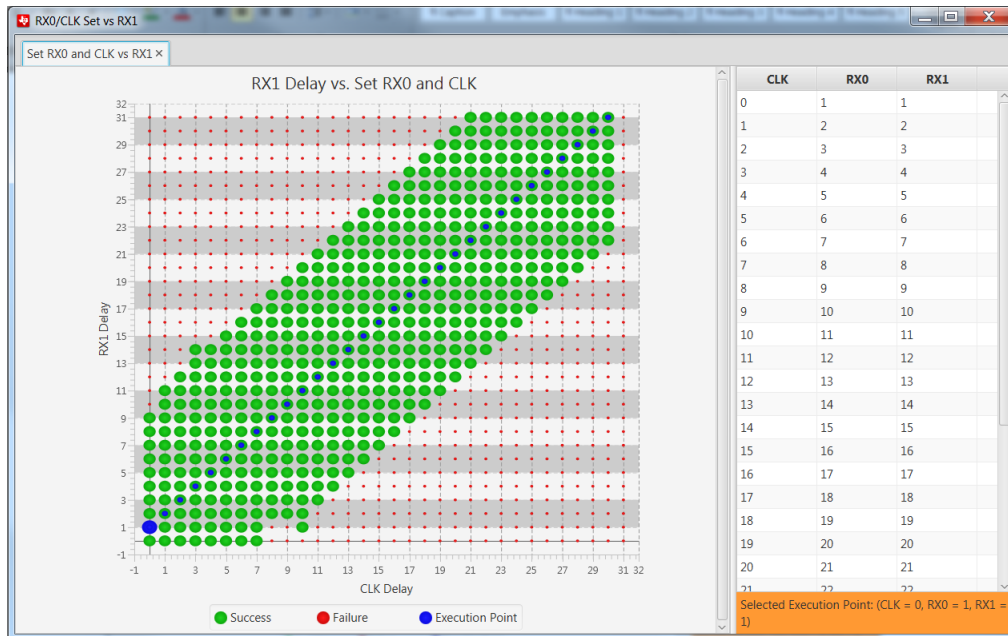

Figure 20. FSI Skew Compensation Utility - Dual Line CLK vs RX1 at Single Line Execution Points
- The saved file can now be used as an input for the FSI Skew Compensation Utility. Launch the utility and select "Dual Line RX0/CLK Set vs. RX1". The utility will prompt you for both the single data line results and the dual data line results. If the user inputs both single data line and dual data line results, the utility will graph RXD1 vs RX0/CLK set at the optimal execution points found in single data line results. If only the dual data line result is inputted, the utility will graph RXD1 vs RXCLK at all RXD0 delays. Figure 20 shows FSI Skew Compensation Utility while selecting the dual data line results.